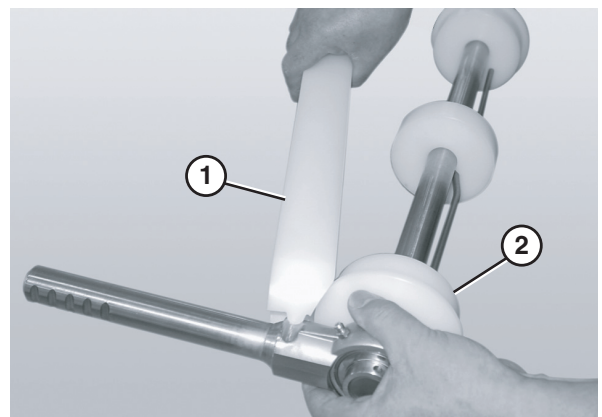

Figure 79
3. Attach the flanged pucks (**Figure 79, item 2**) and bearing shaft assemblies to the idler shaft.
4. Attach the guard bar (**Figure 79, item 1**).